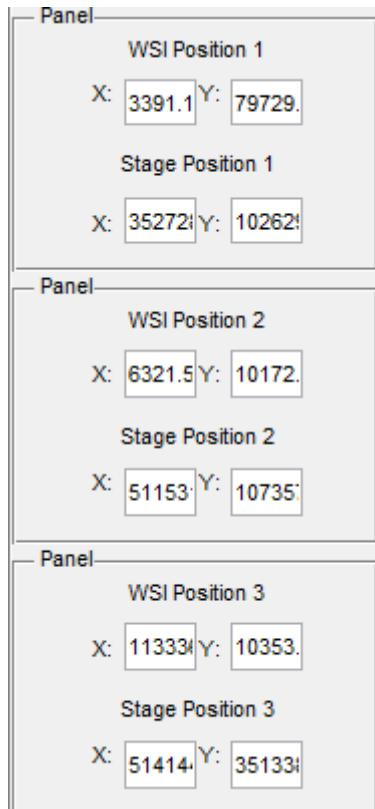

Figure 1
1. Select points that have unique features in non-homogenous areas of the WSI (Remember to maximize the distance between the registration points) (*Figure 1*)